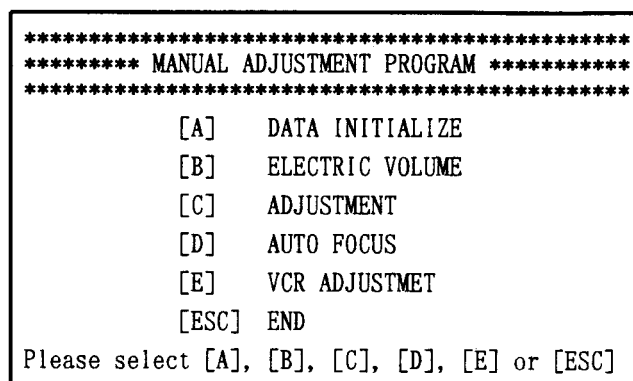

Fig. 2-9
- 2) Press **[A]** to select INITIALIZE. (Figs. 2-9, 2-10)
- 5) If the message shown in Fig. 2-12 appears in the computer's display, press any key. The computer's display returns to Fig. 2-9 (MAIN MENU).
Note 3: If an error message appears in the computer's display, refer to "4. Error Messages". If a key is pressed after the error message appears, the computer's display returns to the MAIN MENU (Fig. 2-9)
Press any key to return to Fig. 2-9